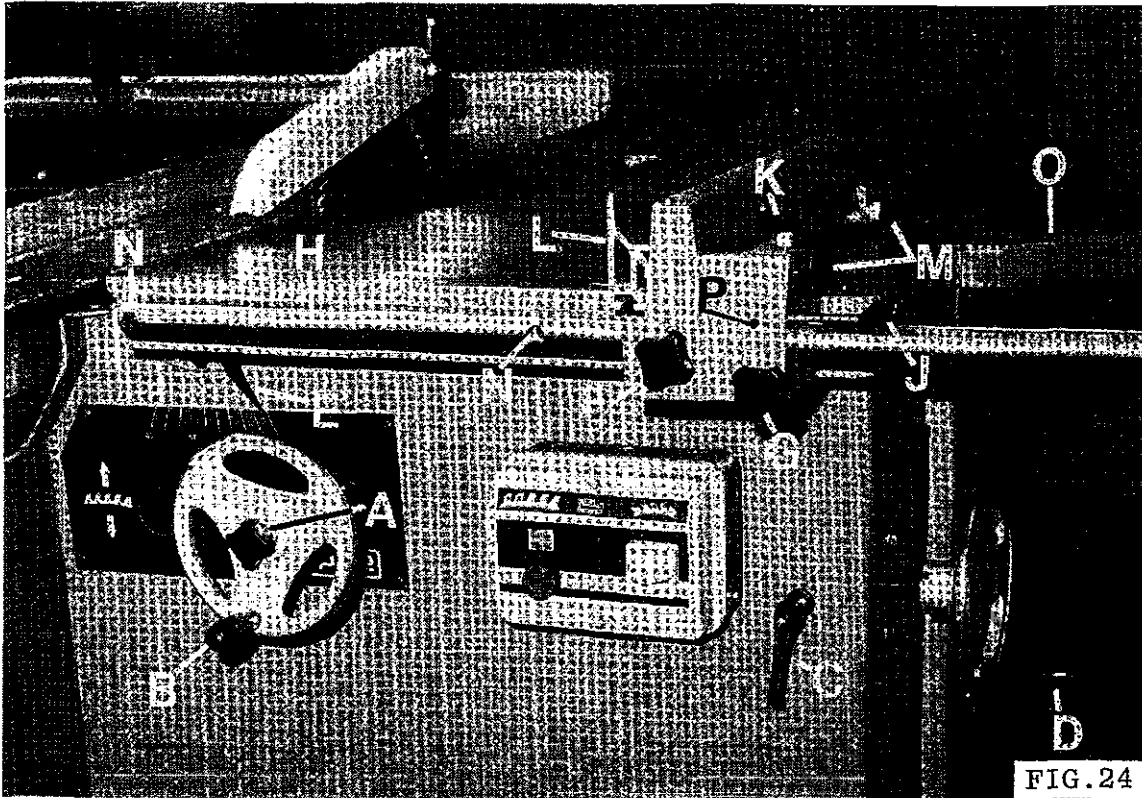
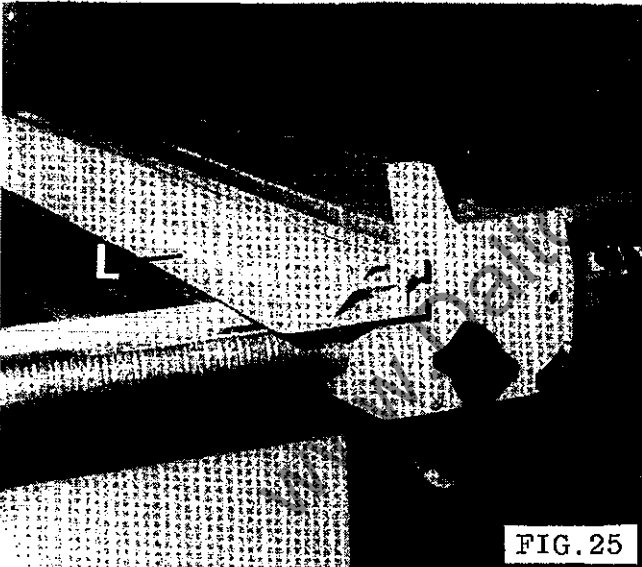

FIG. 24
FIG. 25
To re-assemble rip fence, proceed as follows and refer to FIG.24:-
Release locking handle "A" in FIG.24, and raise or lower the saw arbor by the handwheel "B" to the required position, then re-lock handle "A"
Release locking handle "C" in FIG.24, and turn handwheel "D" working in conjunction with the canting scale indicated by the pointer "E" to the required saw position. Re-lock handle "C".
- 1 Loosen handwheel "F", FIG.24.
The fence plate "L" in FIG.24, has two positions. Position shown in FIG.24, is for use with deep stock, fence can be moved longitudinally to facilitate this. Position shown in FIG.25, is for use with faced panels, melamine, veneer, etc.
- 1 Loosen handwheels "M" in FIG.24, then slide fence plate "L" from fence body.
- 2 Slide fence plate over the two locking plates to position shown in FIG.25, then relock handwheels "M".
When the fence plate position has been changed as previously described, the pointer "J" in FIG.24, must be reset accordingly.
- 1 Loosen handwheel "F", FIG.24, then move fence to a position which would allow a reasonable cut to be taken. Turn handwheel "F" to lock fence in position.